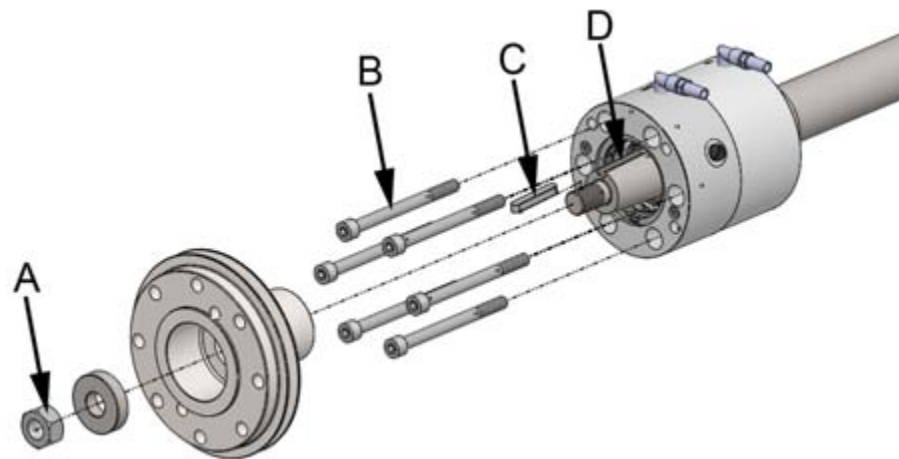

Figure 22. Installing the drive flange
10. Place the bearing housing fastening screws (6 pcs, figure 22, point B) in the holes and install the drive flange.
- 10.1. Place the key (figure 22, point C) in the keyway (figure 22, point D).
The shaft seal in the drive flange contacts the key, but if you lift the rear edge of the drive flange slightly, it will clear the key. The tightening torque of the drive flange nut (figure 22, point A) is 150 Nm. Use a thread locking compound (such as Loctite 242).